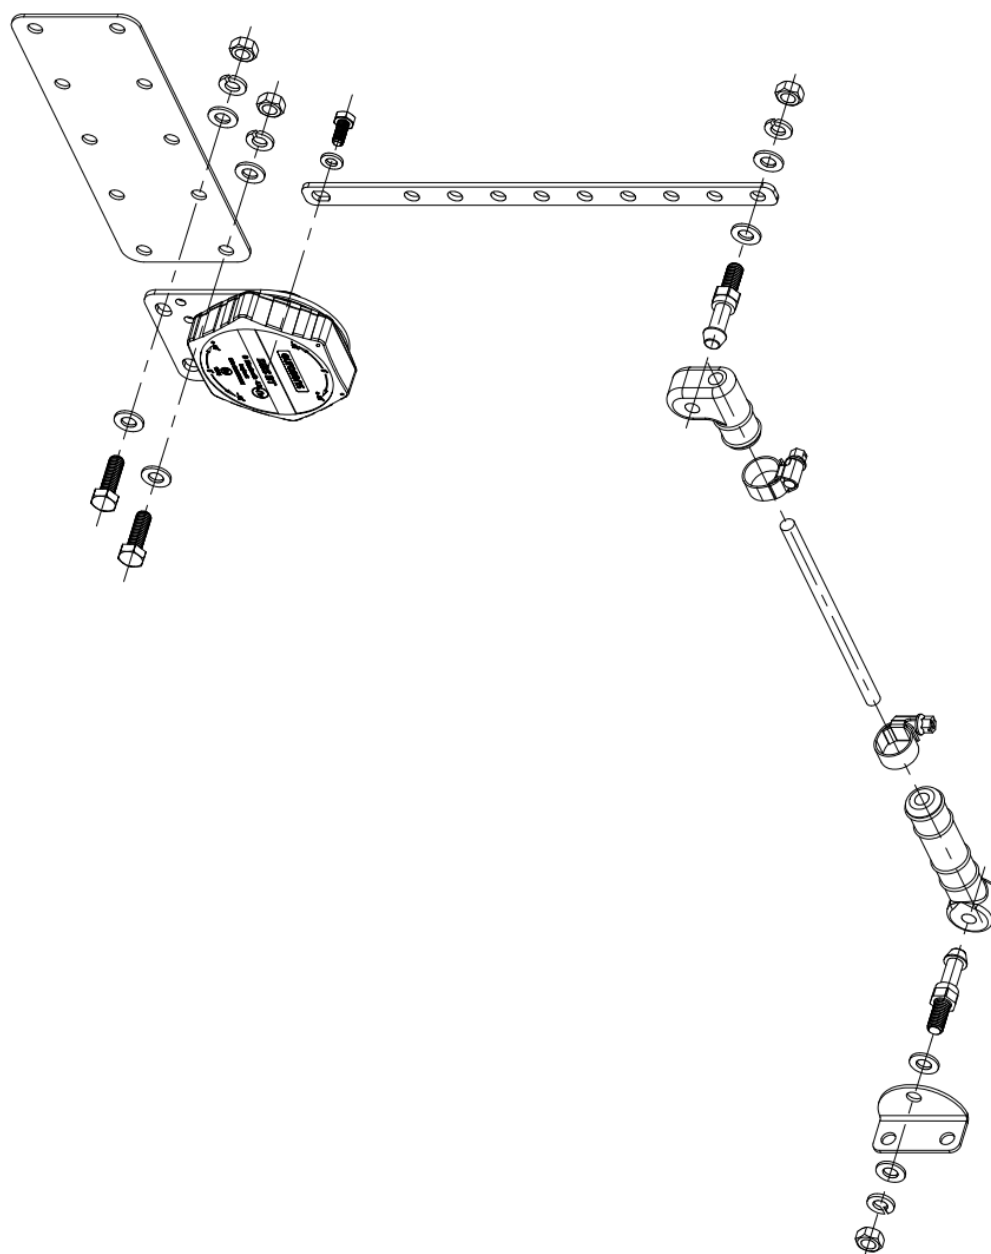

fig. 3.2. Diagram of eurosens DDS BT connecting levers
- 2) While installing the sensor on a vehicle frame, mount the lower end of the lever to the unsprung element of the bridge axle using brackets from the mounting kit (fig. 3.2).